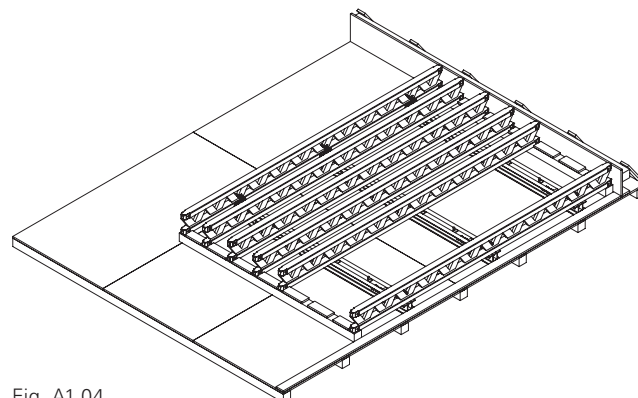

Fig. A1.04
4. Position intermediate girder and align on spacing battens. (Fig. A1.04)